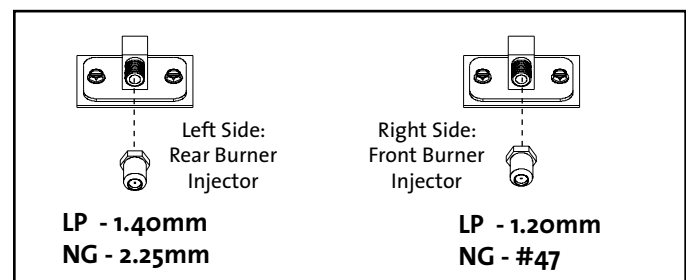

Figure 30.
- 8. Change the Burner Injectors.** See fig. 30. Using a 1/2" open end wrench or deep-well socket remove both burner injectors from the brass elbow housings and replace with the appropriate injectors supplied in the kit. **Injectors are labelled: "L" = Left / "R" = Right.**